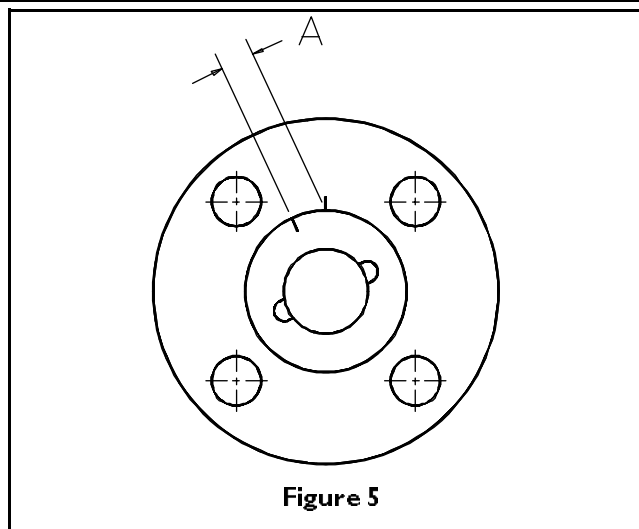

Figure 5
8. Insert the body seal (6) and gently press it into the groove in the body.
9. Using a thread lubricant compatible with the media, screw the insert (2) into the body and tighten with the required torque shown in Table I. If a torque wrench is not available, tighten the insert the same number of turns as in Step 5 until the marks match the "A" dimension shown in Table I and illustrated in Figure 5.